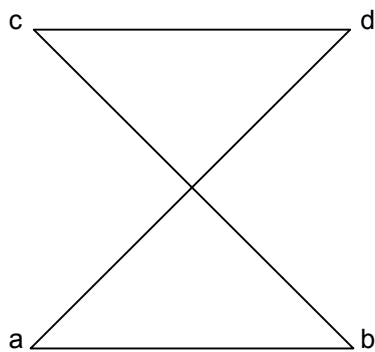

Fig. 3-189 Measurement not Allowed (example)
- (10) Area calculation with this function is performed through triangle-based approximation. Therefore, measurement is not allowed if polygons are formed by drawing intersecting lines from coordinate points as in the example shown in Fig. 3-189, in which coordinate points are specified in the order of “abcd”.